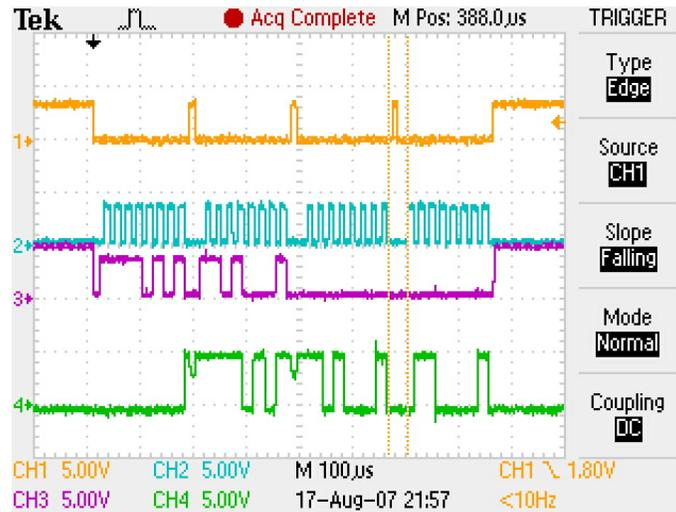

Fig 6.2 - Typical SPI Communications Waveforms
Fig 6.2 above shows a basic 4-byte data exchange between the iPac-9302 master-host and the LCD SPI client device we will use in the upcoming exercises. The orange signal (1) is the chip select. The aqua signal (2) is the clock. The purple signal (3) is the SSPTX1 (SPI Serial Output) data, the first two bytes of which are data to the LCD SPI client. The green signal (4) is the SSPRX1 (SPI Serial Input) data, the last two bytes of which are data sent back from the LCD SPI client. Note that the data sent by the master-host in the 3rd and 4th byte exchanges are all zeroes. These are the dummy write/read operations, described earlier. The data is ignored by the LCD client, and these byte exchanges are strictly for the purpose of getting data back from the LCD client. Similarly, the data sent back by the LCD client in the first 2 byte exchanges, have no meaning to the master-host and are ignored.